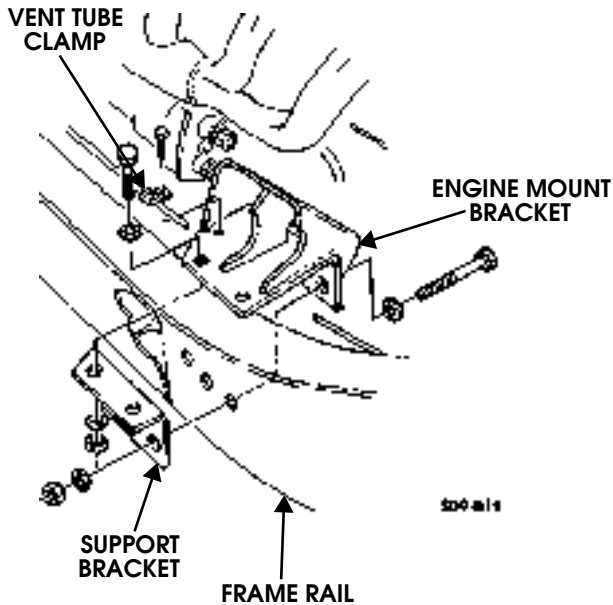

Figure 9-131: Right Engine Mount Bracket Replacement
2. Remove two locknuts, washers, bolts, and washers securing support bracket to engine mount bracket (Figure 9-131).
1. Install support bracket and engine mount bracket on frame rail with three washers, bolts, washers, and locknuts (Figure 9-131).